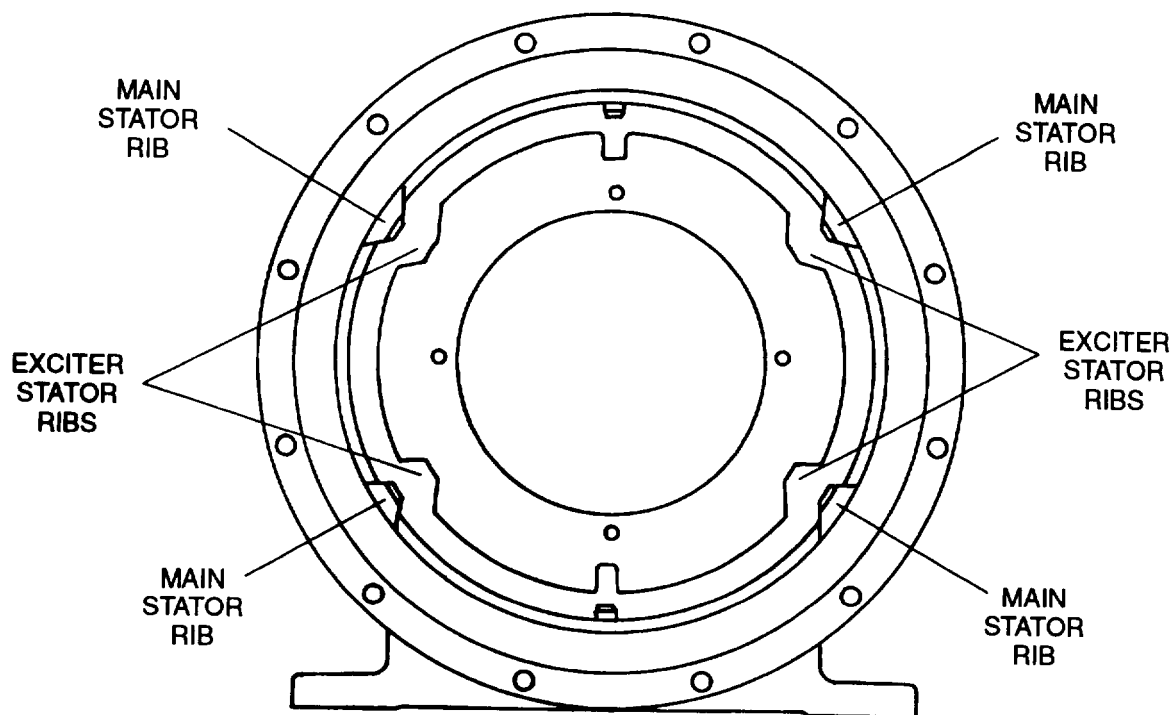

FIGURE 4-11. Generator Housing Rib Locations
- i. Apply heat evenly to ribs of generator housing (31) at end bell section using an acetylene torch with a rose bud tip, refer to FIGURE 4-11 for location of ribs. Heat ribs until exciter stator (14) drops down and lift off housing (31).
- c. Apply heat evenly to ribs of generator housing (31) at end bell section using an acetylene torch with a rose bud tip, refer to FIGURE 4-11 for rib locations. Heat ribs until exciter stator (14) drops into position.
- d. Install setscrews (13) in generator housing (31).